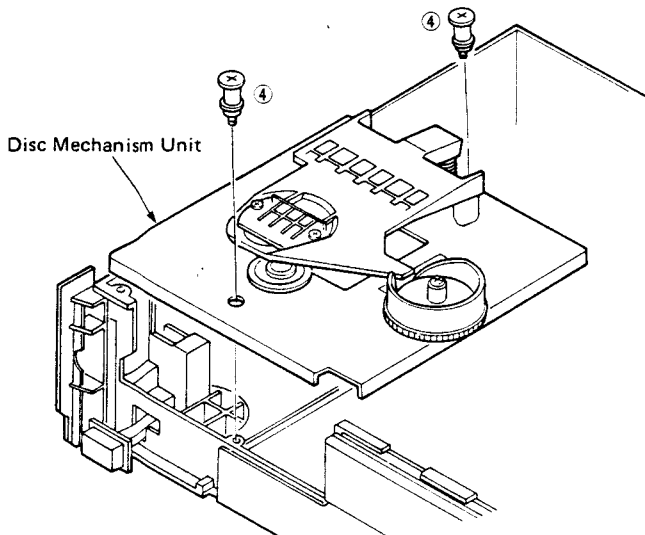

Fig. 4
- a. Remove 2 screws ( ④ ) in Fig. 4.